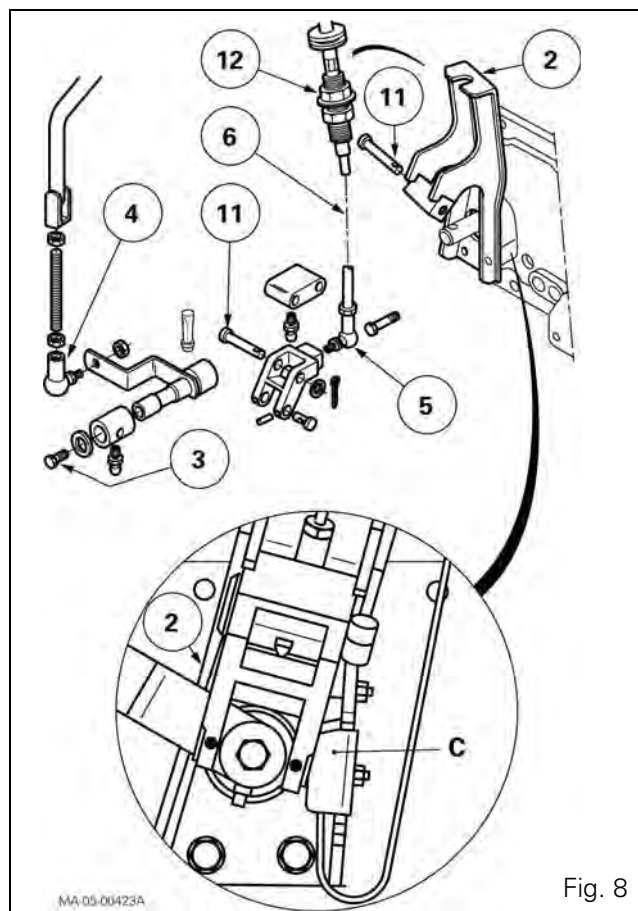
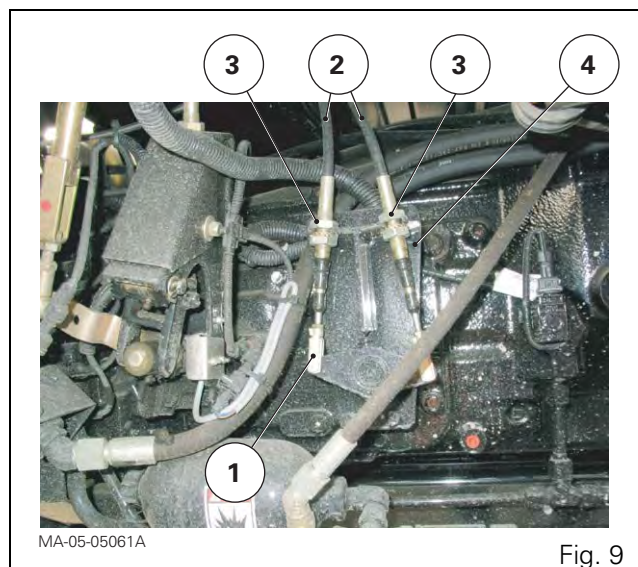

Fig. 8
Fig. 9
8. Removing the gear control (Fig. 8)
- Remove the ball joint (4).
- Remove the screw (3).
- Remove the pins (11).
- Disconnect the ball joint (5).
- Mark the adjustment of the cable (6). Slightly loosen the top nut (12). Separate the cable from the support (2).
9. Removing the reverse shuttle control (Fig. 9)
- Disconnect the clips (1). Mark the adjustment of the cables (2).
- Loosen the lower nuts (3). Separate the cables from the support (4).